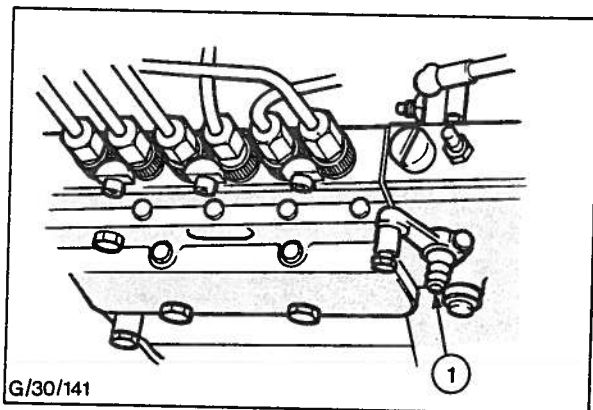

Fig. 37 - Excess Fuel Control - Manual Type
2. Press the excess fuel button (Fig. 37) in until a distinct 'click' is heard.